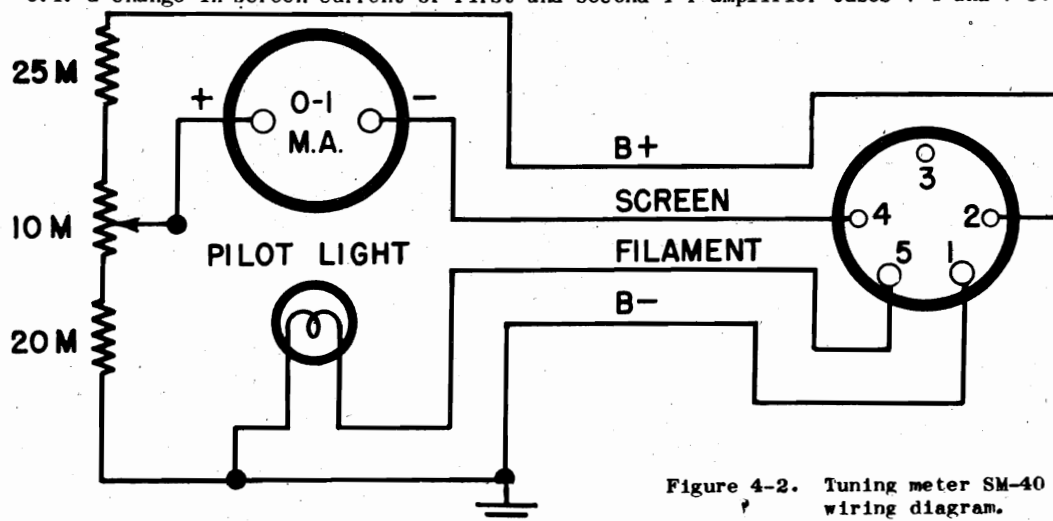

Figure 4-2. Tuning meter SM-40 and schematic wiring diagram.
1. Tuning Meter. - The tuning meter "S METER" is not supplied with the receiver, but can be purchased on request from the company. Provision has been made on the rear apron of the receiver for the external connection of the "S" meter. A five prong plug is wired to the meter as indicated in figure 4-2 and should be plugged into socket S0-2. When metering reception, the meter measures a voltage drop across resistor R-27 e.i. a change in screen current of first and second i-f amplifier tubes V-4 and V-3.